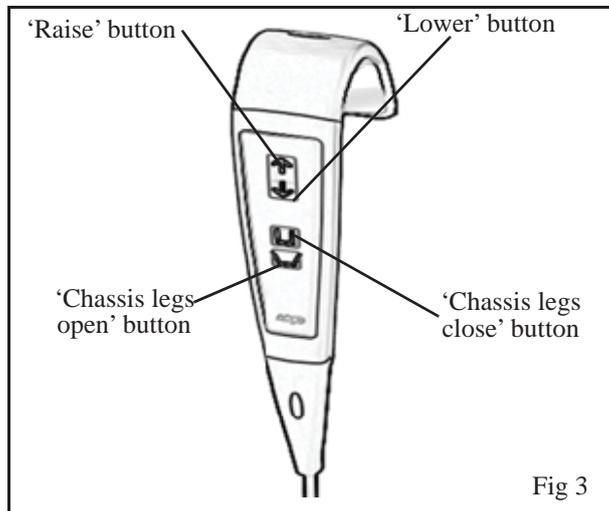

Fig 3
**Hand control:-** The hand control is attached to the lift by an extending cable. The handset controls lift and lower and chassis leg opening/closing. Direction arrows adjacent to the buttons indicate each function. (See Fig 3)